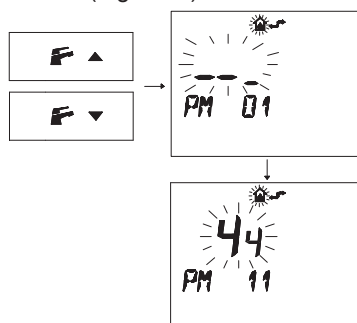

Fig. 8.20
- Press buttons **F** **▲** or **F** **▲** to display the "PM11" program of the pump post-circulation (Fig. 8.20).